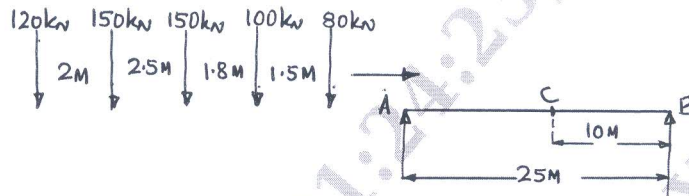

Fig.Q3
- 3 The multiple point loads of 120 kN, 150 kN, 150 kN, 100 kN and 80 kN as shown in Fig.Q3 with spacing 2m, 2.5m, 1.8m and 1.5m cross a girder of 25 m from left to right with 80 kN load leading. Calculate: